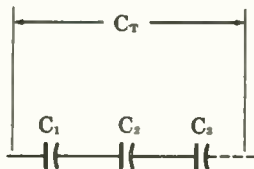

Fig. 17.
*Capacitors in series (Fig. 17)*